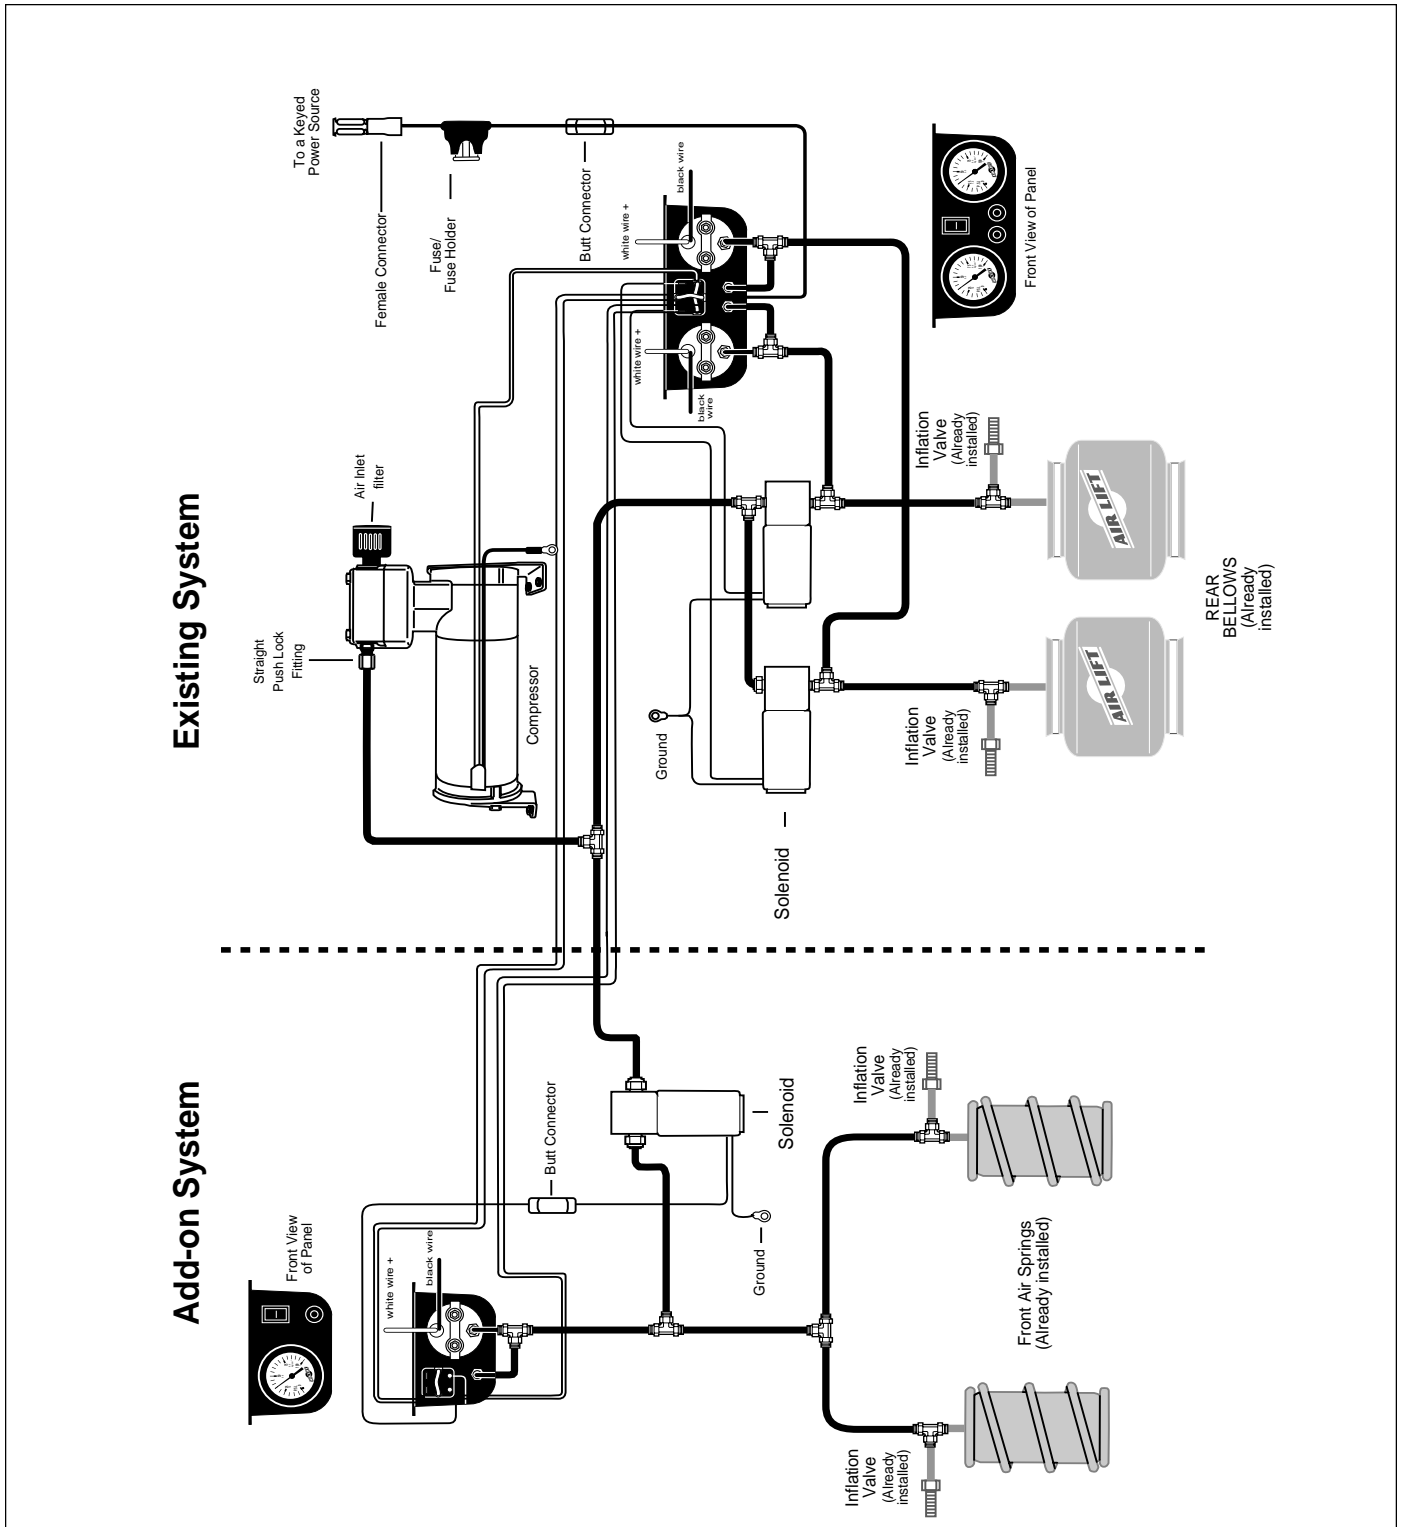

Figure 1
3. Use a standard tube cutter, a razor blade, or very sharp knife to cut the air line. A clean square cut will ensure against leaks. Cut the air line already installed between each air cylinder and inflation valve. Install a tee between the two air lines connecting the two air springs (Figure 1 & 4).
6. Measure distance between solenoid and control panel. Cut sufficient air line and attach one end into last leg of tee on solenoid and route air line to gauge and control panel (Figure 1).